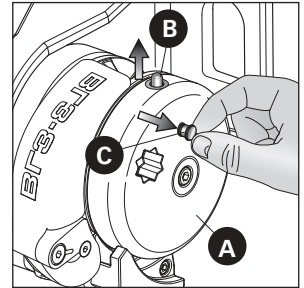

FIG. 2
- Pull the knob **C** until the pin is completely out **B** (as shown in fig. 2).